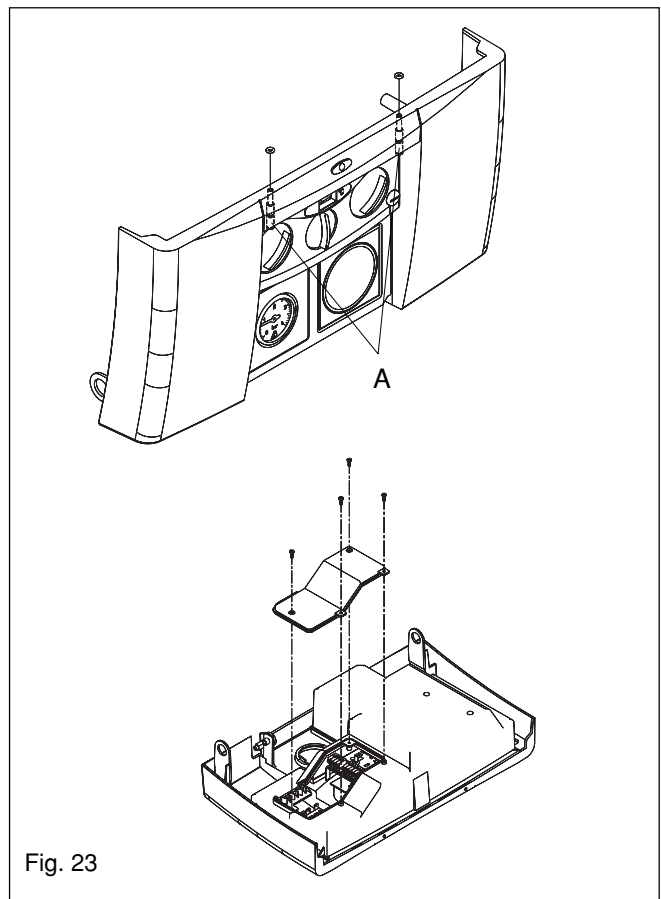

Fig. 23
- locate and unscrew the 2 screws that secure the controls fascia to the appliance casing (see fig 23)
The appliance terminal block is located on the left side of the control fascia (see fig. 23). Locate and remove the screws securing the terminal block cover.